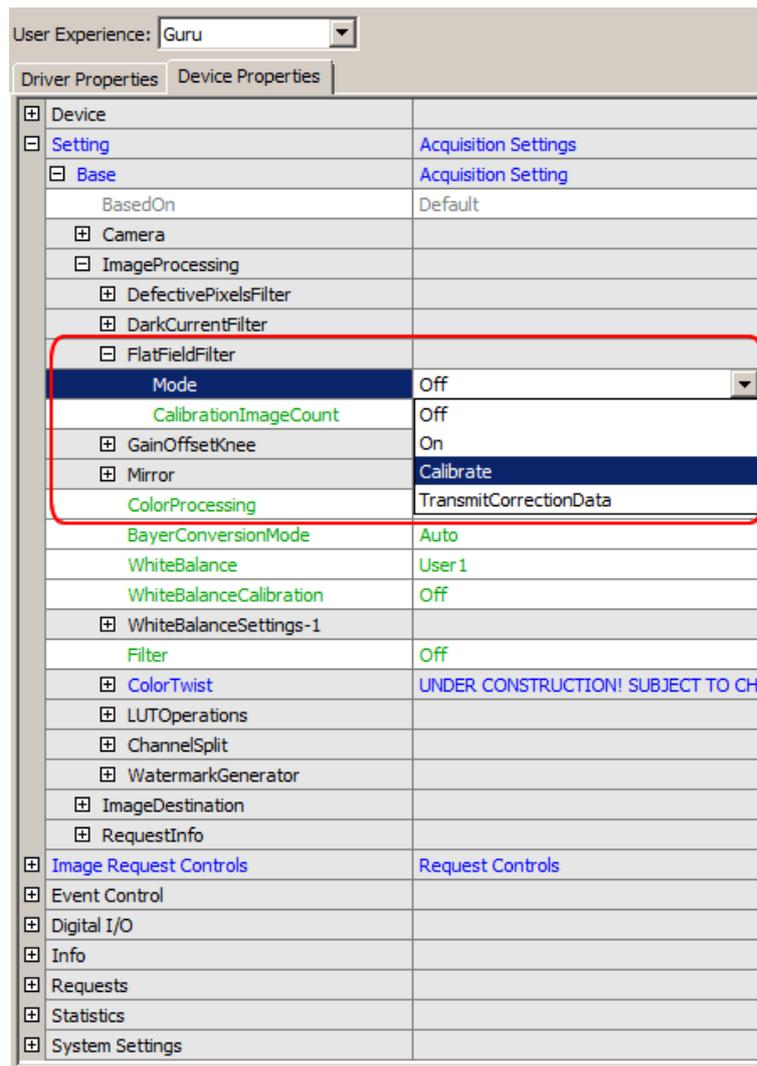

Figure 4: Image corrections: Host-based flat field correction
4. Set the (Filter-) "Mode = Calibrate" (Figure 4)